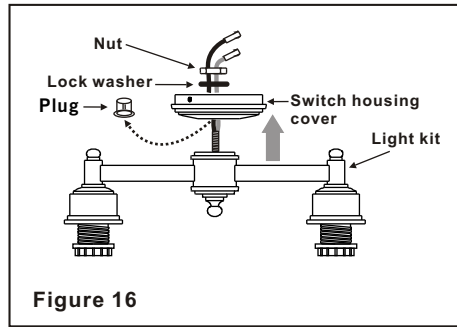

Figure 16
1. Remove and discard the plug from the switch housing cover. Attach the light kit to the switch housing cover by feeding the light kit wires (black and white) through the hole of switch housing cover and then screw it onto the switch housing cover by nut & lock washer. Be sure it is tight enough to prevent light kit from vibrating loose. (Fig. 16)